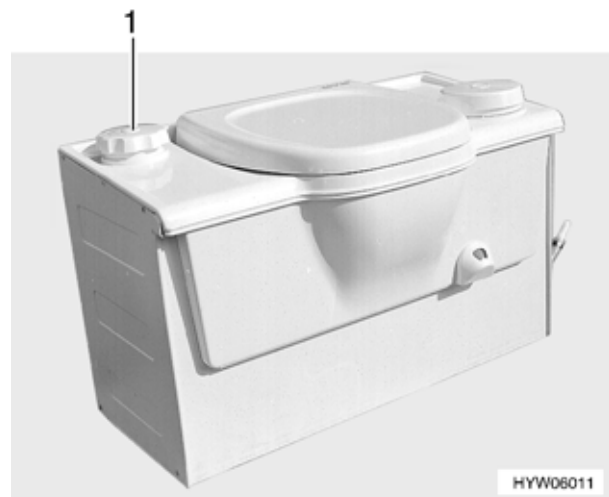

Fig. 151 Thetford cassette, flush button (variant 2)
- Press flush button (Fig. 151,1) and at the same time rotate in an anticlockwise direction.
- Turn the flush button (Fig. 151,1) in a clockwise direction: the sliding trap is closed.